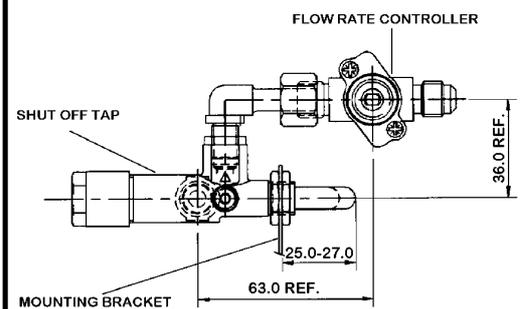

Fig. 48 Refitting dimensions of valves into mounting bracket
13.10.8 If fitting a new tap, remove the hexagonal nut at the mounting bracket end of the old tap and fit to the replacement tap. Refit in the reverse order - **NOTE** - prior to refitting the elbow to the shut-off tap, apply an approved sealant to the elbow thread. Refer to figure 48 to ensure accurate refitting dimensions of the valves and subsequently into the mounting bracket. When refitting, make sure that the tap spindle is in the correct relationship relative to the control pivot bracket. Rotate the pivot bracket fully clockwise. The tap spindle should "bottom out" (i.e. the tap should be fully open) after the pivot bracket has actuated the ignition microswitch but before it has pushed the microswitch leaf against the microswitch body.